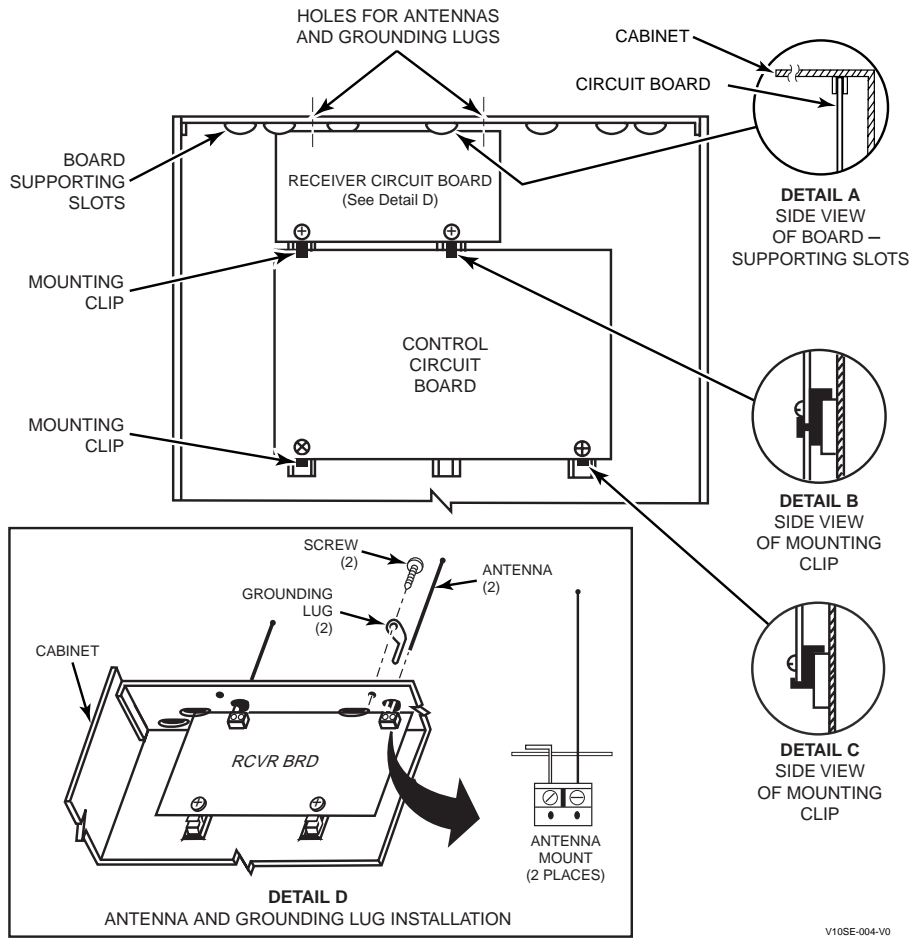

Figure 3. Mounting the PC Board and RF Receiver Together in the Cabinet
* These mounting clips are also used for mounting the same end of the circuit board when an RF receiver is mounted above it, as in *Figure 3*.
1. Hang two mounting clips (provided with receiver) on the raised cabinet tabs, as shown in Detail B in *Figure 3*.
4. Hang two mounting clips (supplied with the control board), on the raised cabinet tabs as shown in Detail C in *Figure 3*.